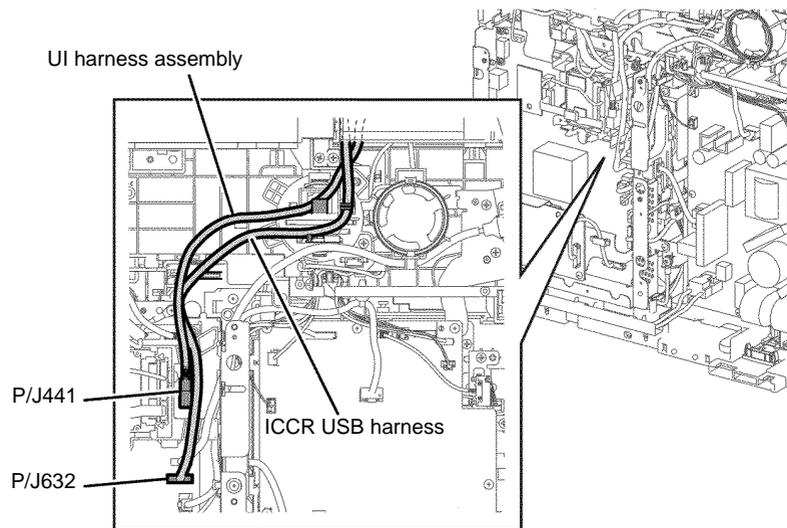

Figure 2 ICCR USB and UI harnesses disengage
11. Disengage P/J632, then release the ICCR USB harness from the harness guide, Figure 2.
12. Disengage P/J441, then release the UI harness assembly from the harness guide, Figure 2.